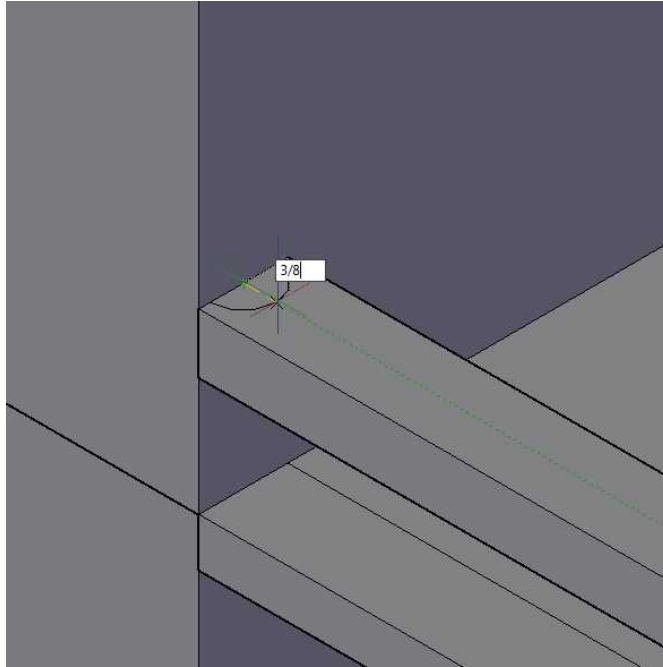

FIGURE 16.54: Creating the first railing post cylinder
13. At the Specify center point of base or: prompt, click the midpoint of the first lower railing that you drew, where it meets the exterior wall, and enter $3/8$ (9.5) for the radius (see Figure 16.54).